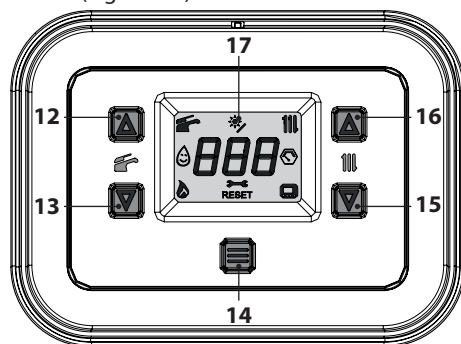

Figure 3.3
If the room temperature is too high, do not adjust the radiator cocks but decrease the heating temperature setting using the room thermostat or the heating control buttons 15 and 16 (Figure 3.3).
To restore operation, press the reset button 14 (Figure 3.3) on the boiler control panel.
After three reset attempts made by pressing the reset key 14 (Figure 3.3), code "**E91**" and the symbol  (Figure 3.6) appear on the LCD display. The boiler is in lockout mode.
To restore boiler operation, disconnect the electrical power supply. Then, reconnect it and press buttons 12, 13 and 14 (Figure 3.3) on the boiler control panel at the same time for at least 5s.